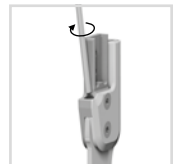

fig. 17
- 6 Screw in the adjusting screw up to the desired position (fig. 17).